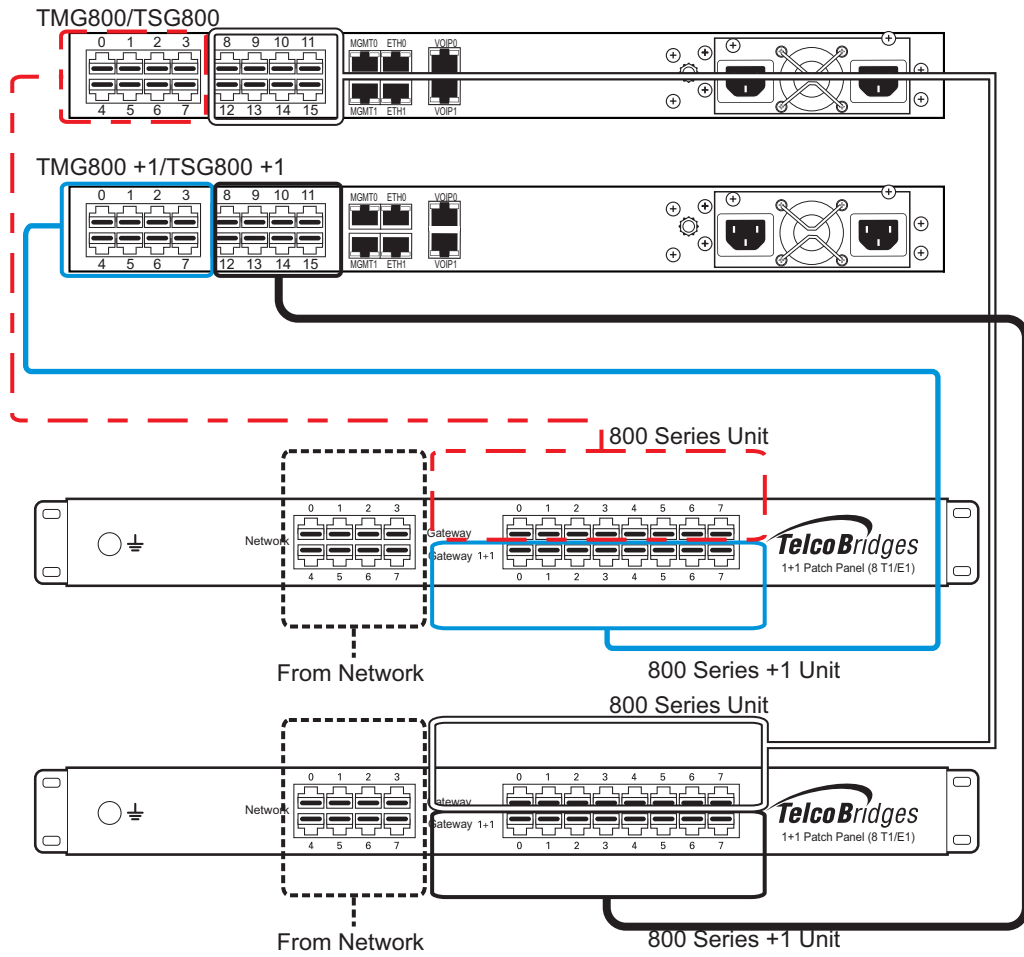

Figure 2.11 TMG800/TSG800 and TMG800 +1/ TSG800 +1 connecting to the 1+1 patch panels (8/T1/E1)
1. Connect T1/E1 lines 0-7 of the Network section of the patch panel to the remote equipment. See figure 2.11 on page 26.